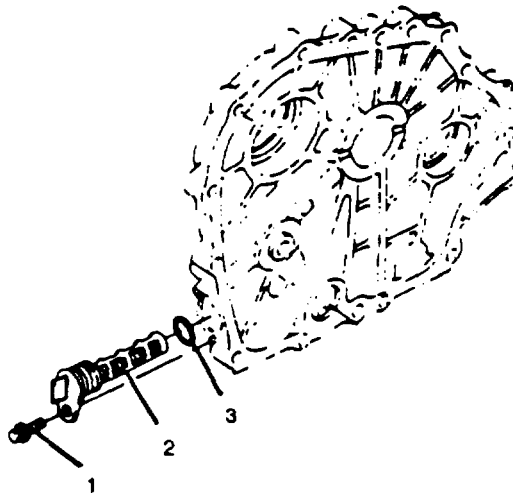

Figure 4-27. Lube Oil Strainer
a. Removal. (Refer to Figure 4-27)
- (1) Remove hex head bolt (1) from crankcase.
- (2) Remove lube oil strainer (2) and O-ring (3). Discard O-ring.